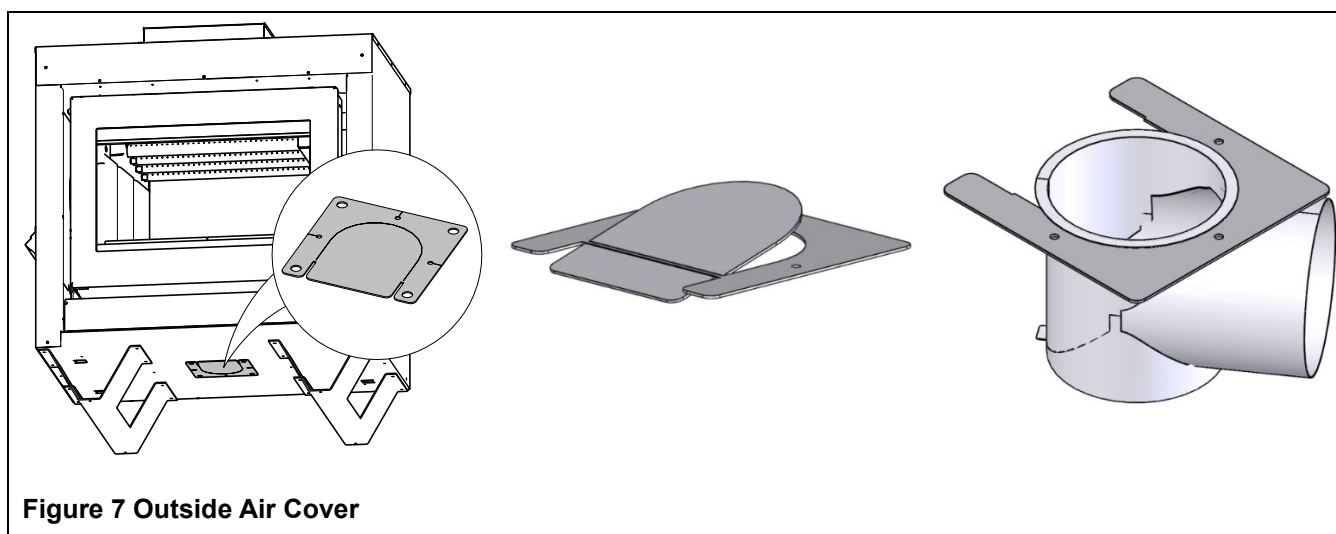

Figure 7 Outside Air Cover
1. Use a short Phillips screwdriver to remove the outside air cover located on the bottom of the fireplace, four screws hold it in place (see Figure 7).